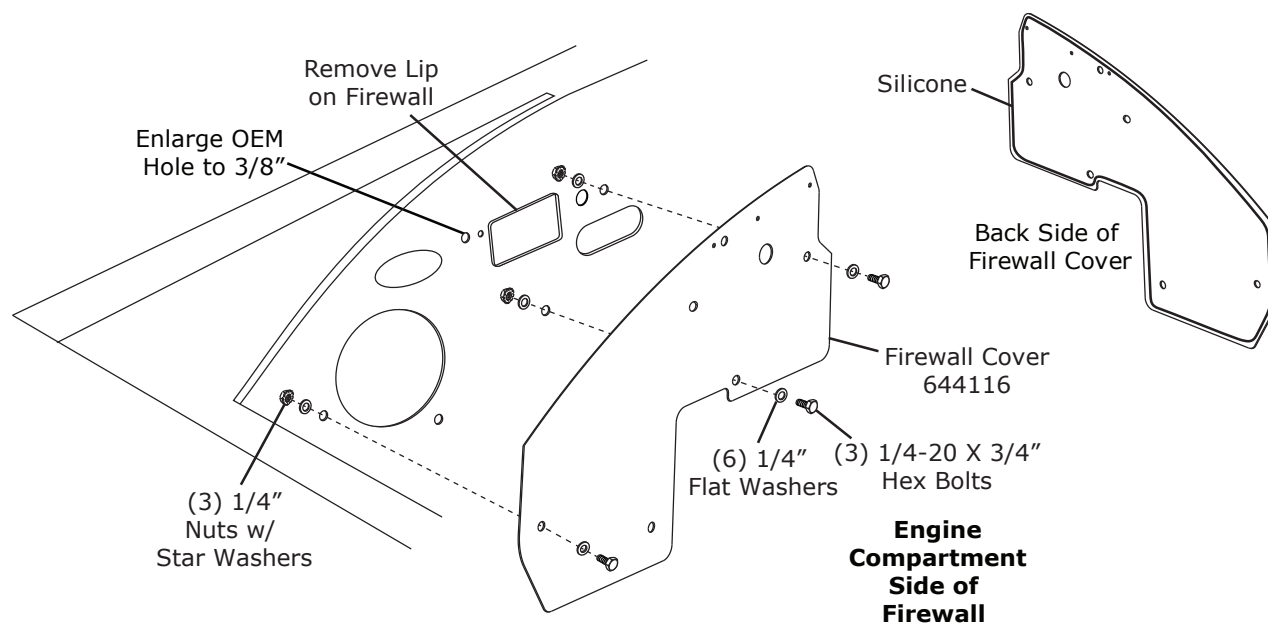

Figure 7
1. Remove lip on firewall (See Figure 7, below).
2. Enlarge OEM hole on firewall to 3/8" (See Figure 7, below).
3. Apply a 1/4" bead of silicone around the back side of the firewall cover as shown in Figure 7, below.
4. From the engine compartment, install firewall cover onto firewall and secure to firewall using (3) 1/4-20 x 3/4" hex bolts, (6) 1/4" flat washers and (3) 1/4" nuts w/ star washers as shown in Figure 7, below.